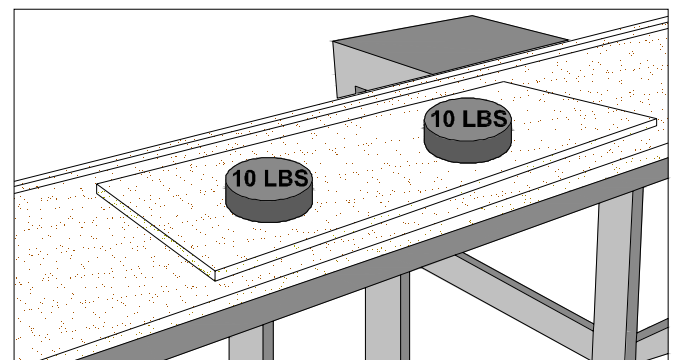

Figure 3C
- Align sink with register marks on flange and reference lines on the substrates. (FIG. 3C)
- Apply pressure directly to the sink ring. (FIG. 3C)
- Place weight on particle board cover. (FIG. 3C)